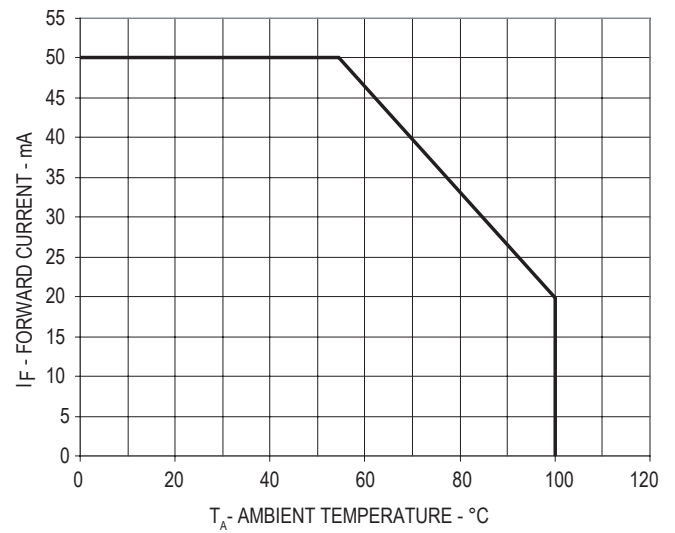
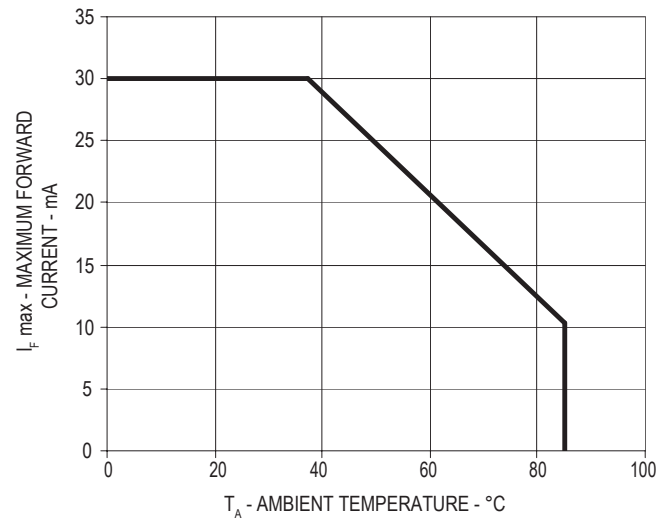

Figure 4. Maximum Forward Current vs Ambient Temperature
Figure 8. Maximum Forward Current vs Ambient Temperature
1. Derate linearly as shown in Figure 4 and Figure 8.